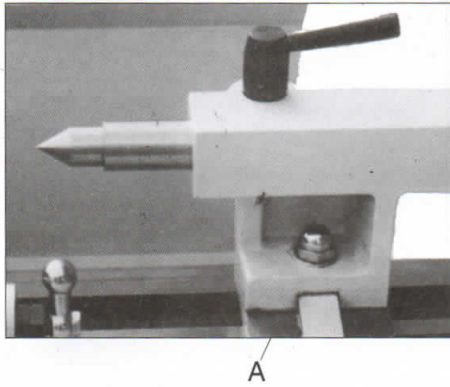

Fig. 9 Tailstock Rest Adjustment
When you are going to change position or replace the tailstock you need to loosen the nut as shown in (A) of Fig. 9.